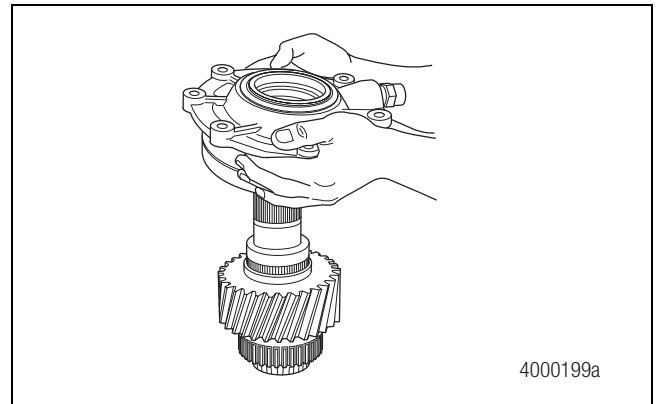

Figure 4.12
3. Lift the front input bearing cage and oil pump assembly off the input shaft. Figure 4.12.